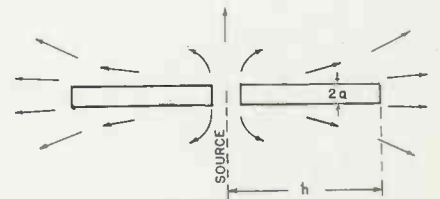

Fig. 4. Guidance and radiation of power by dipole antenna
It is quite apparent now, that if one takes the transmission line of Fig. 3 and straightens it into a single line like in Fig. 4, the radiation effects become even much more predominant, and if the length of the line halves is a sizable fraction of a wavelength, then the "end" effect of the complementary mode will extend almost over the entire length of the wire, giving the impression that the whole conductor radiates power. This, of course, is the prototype of a "dipole" antenna which is used extensively and about which probably more discussion has been written than about any single other element in electromagnetic theory. For a long time the concept of radiation from antennas and transmission lines was rather confused and it has been cleared up only rather recently through the researches of J. R. Carson(3) and S. A. Schelkunoff(5).
The treatment of the general antenna problem is much too difficult to even attempt a mathematical formulation here. However, substituting for Fig. 4 the double-